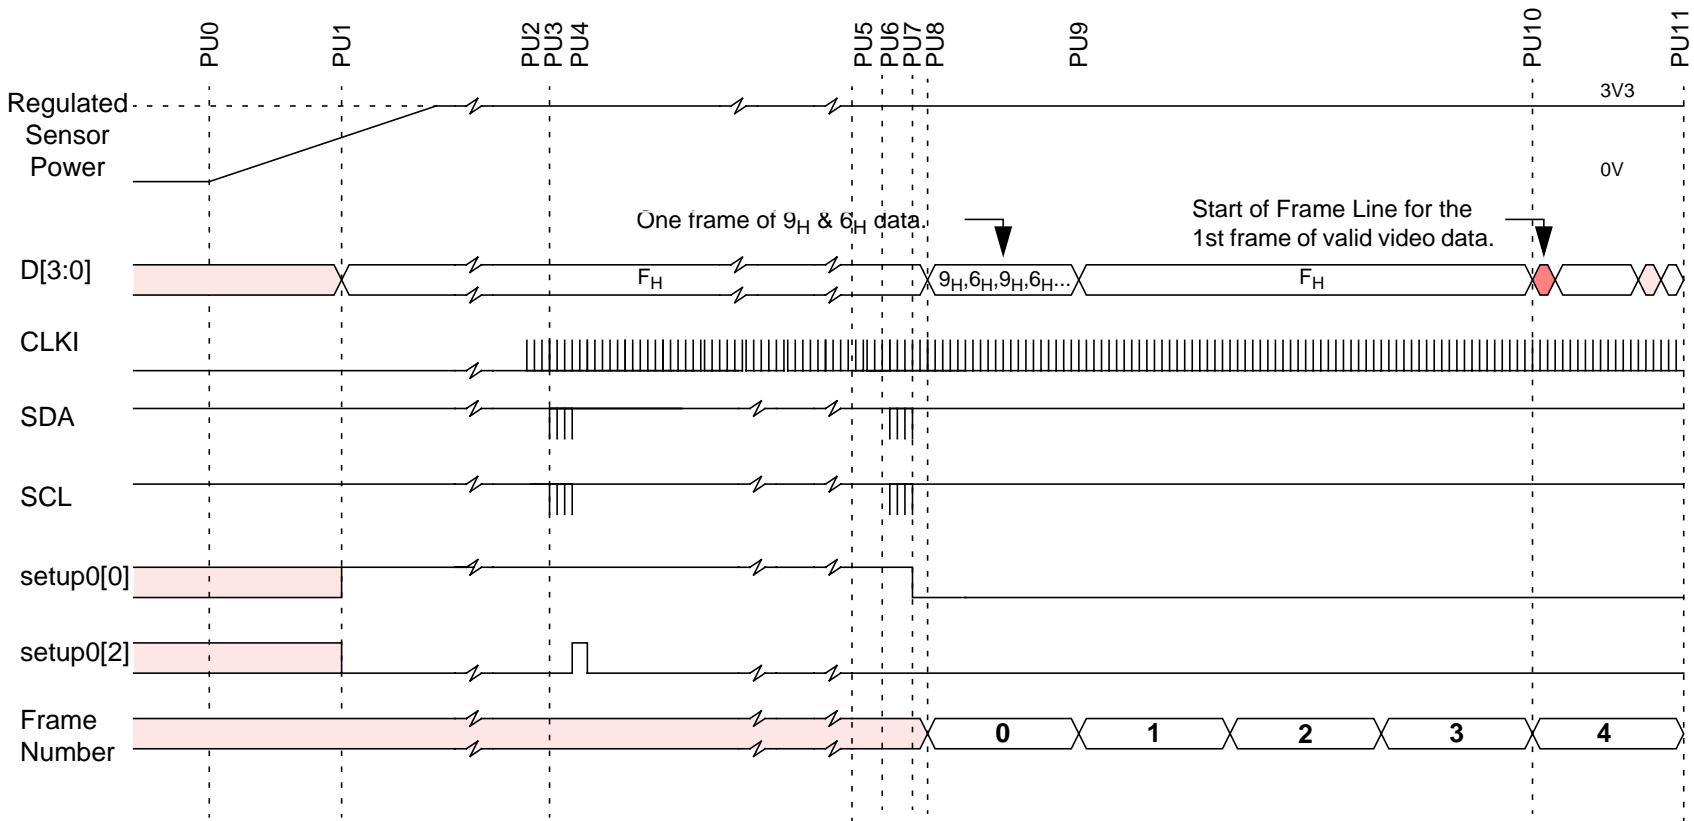

Figure 22 : Typical System Power-Up Procedure
On power-up a sensor will pull all data lines high and these lines will remain high while the device is in the power up default, low power state. The device is removed from this low power mode by the I2C host writing to sensor register, setup0 [address 10₁₆]. When the device exits the low power mode it will follow a defined power up sequence, please see Figure 22 for more details. Upon completion of the power up sequence the sensor will begin streaming video.
8.8.1 Power-Up/Down (Figure 22)